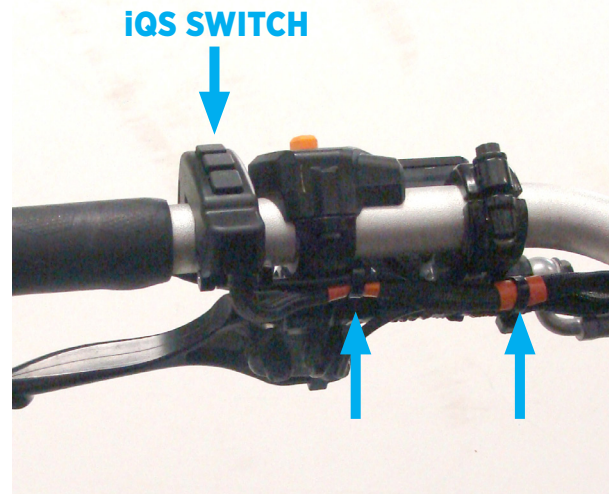

Figure 37
2. Use a Phillips screwdriver to loosely install the IQS switch onto the handlebar (Figure 37). Before you completely tighten the screw, sit on the snowmobile and position the switch in a comfortable position for your hand. Then tighten the screw to 1.2 N.m (10.6 in-lb).